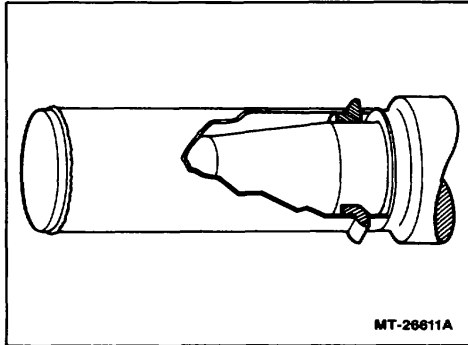

Figure 20. - Installing Wiper Ring on Axle Shoulder
1. Apply a thin coat of Loctite Gasket Eliminator (purple) to shoulder on spindle or axle tube, and place wiper ring on axle tube or spindle using an installing tool (Figure 20). Remove excess Gasket Eliminator sealant.
The Guardian oil seal grit guard is installed in the same manner as the wiper ring, previously described and shown in Figure 20.